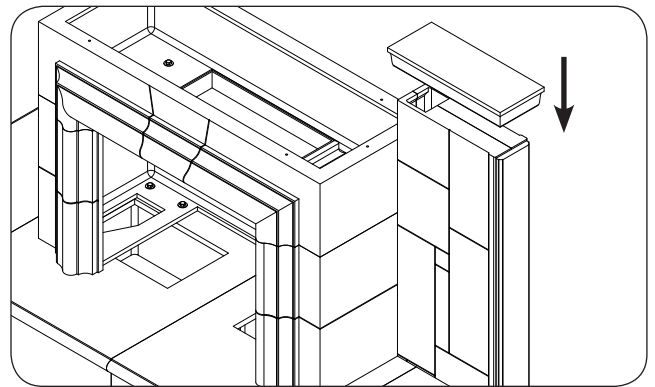

Fig. 18-5 Assemble top side-wall (skip if n/a)
5. Slide the top side-wall piece onto the front and rear side-walls as shown in Fig. 18-5 (no hardware required). This will secure the entire side wall.